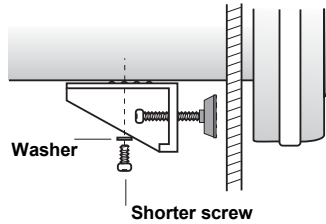
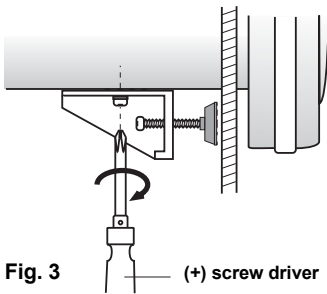

Fig. 2
Fig. 3
4. Firmly fix the plastic mount block on the either side of the radio using shorter screw. Don't forget to attach the washer. (See Fig. 2 and Fig. 3)